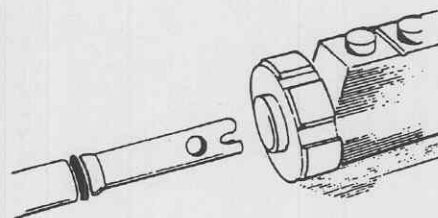

Figure 2-4. Cutter/bur receptacle alignment.
a. Align a cutter and bur drive coupling with the receptacle on the handpiece as illustrated in figure 2-4, making sure the key portion of the cutter/bur is placed into any of the four slots.